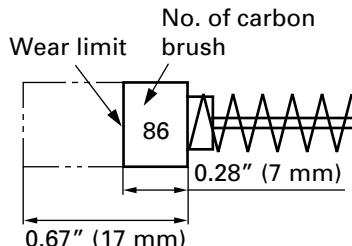

Fig. 7
## 3. Inspecting the carbon brushes (Fig. 7)
**NOTE:** Use HITACHI carbon brush No. 86 indicated in Fig. 7.